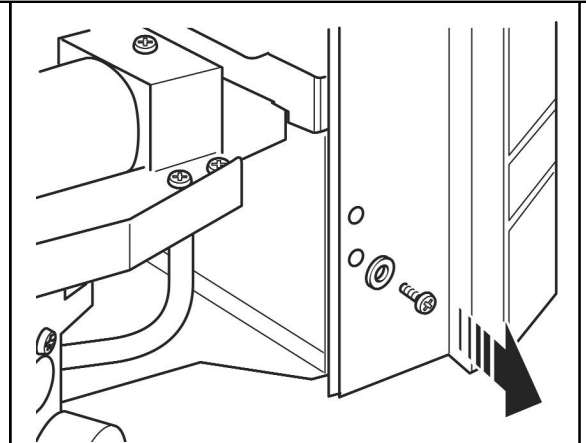

Figure 64. Removing the fascia fixing screws (Shown with Bolero fascia)
2. Remove the two screws securing the bottom of the fascia to the sides of the hotbox (See figure 64). On the Bolero there is also two washers.
3. Carefully lift the fascia upward to clear the upper retaining brackets on the hotbox - (See figure 64). Pull the fascia clear and place carefully aside.